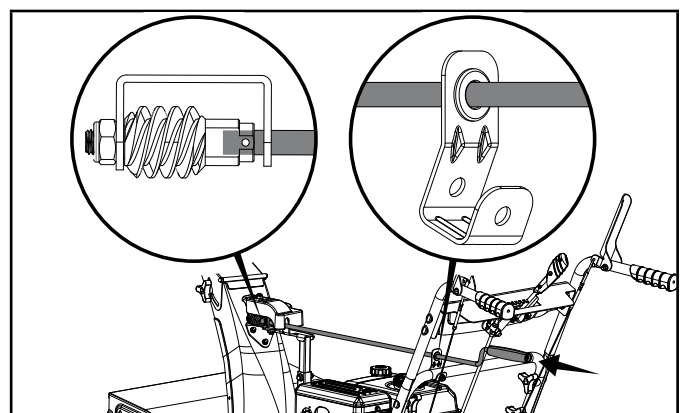

Figure 11A
2. Insert the lever through the discharge chute bracket on the lower handle, and then into the hole of the gear (Fig. 11A).